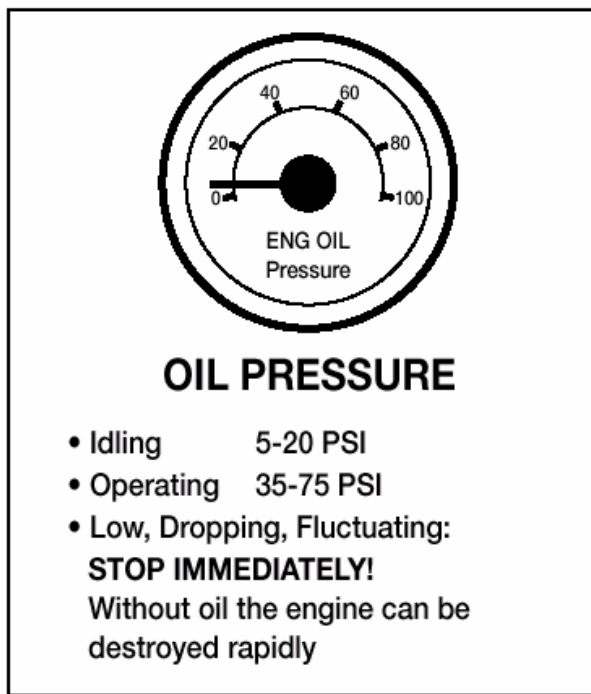

Figure 2.5
- **Oil pressure.** Should come up to normal within seconds after engine is started. See Figure 2.5